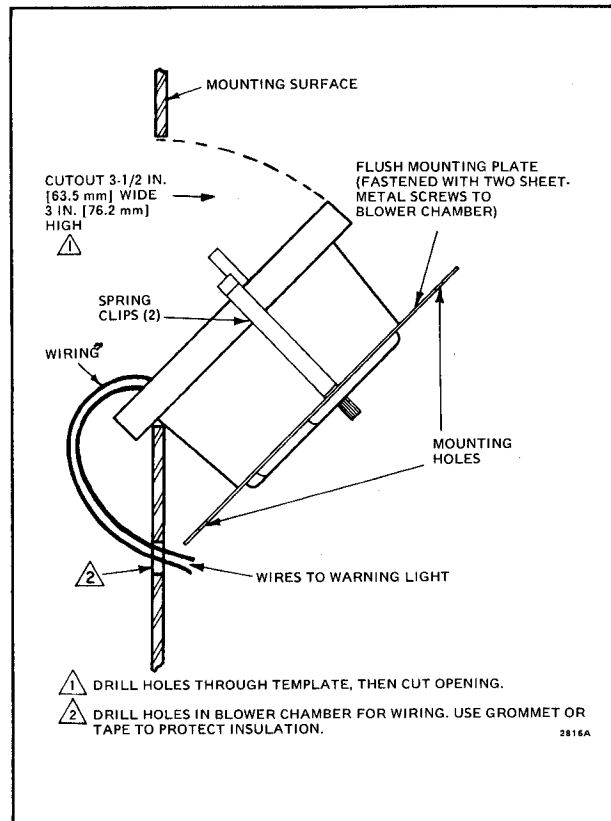

FIG. 3—FLUSH MOUNTING FROM OUTSIDE BLOWER CHAMBER.
114748 Plate for flush mounting. Dimensions in in. [mm in brackets]: 3-1/16 [77.8] wide, 4 [101.6] high, 1/32 [0.8] thick. (Refer to Fig. 3.)
114729 Clip for flush mounting (2 required). (Refer to Fig. 3.)
5. Fit flush mounting plate over face of S830. Snap spring clips into place on each side of case (Fig. 3).